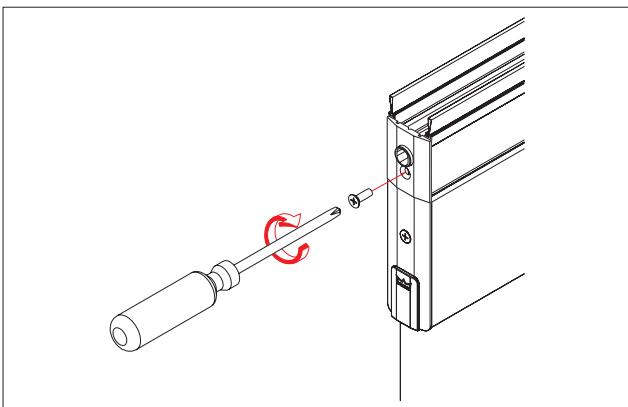

Fig. 50 Tightening the cover
6. Tighten the cover (Fig. 50).